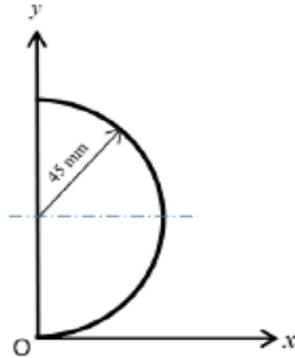

Fig. 3
- (a) Fig. 3 shows a semi-circular plate of radius 45 mm. The plate has uniform density and is aligned within a Cartesian coordinate system with the origin O, as shown.